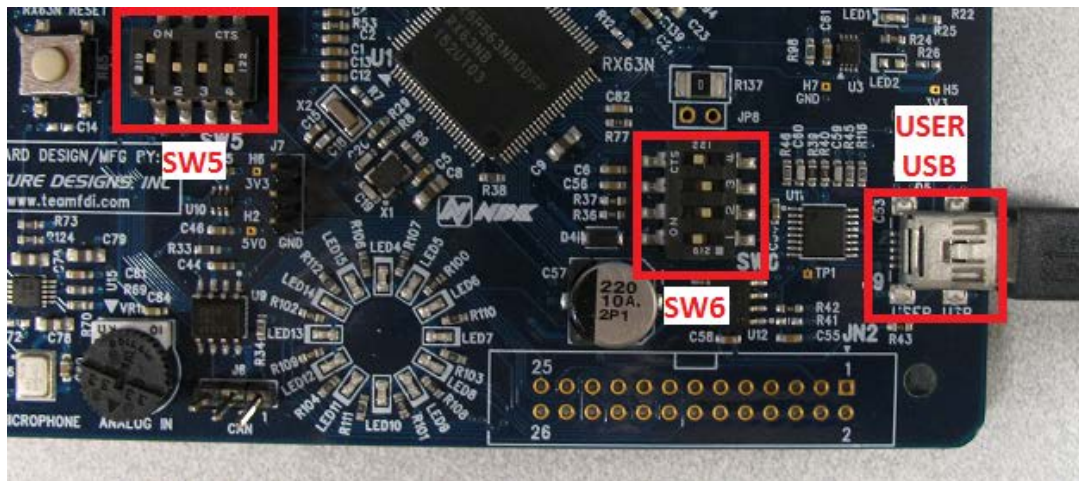

Figure 1 Board Setup
6. You should see a “Confirmation” dialog box. On the RDK board, set **SW5** to **USB Boot Mode** (On, Off, Off, Off) and **SW6** to **USB Function Mode** (On, Off, Off, On). Plug the **USB** cable into the **USER_USB** connector on the right side of the board below the Ethernet jack. See Figure 1 below to check these settings.
8. You should see a “Select USB Device” window with 1 USB device located. Click “OK.” Note: If you do not see an available USB device, unplug the board and flip the DIP switches back and forth to loosen them. Then return them to the settings shown in Figure 1 above.